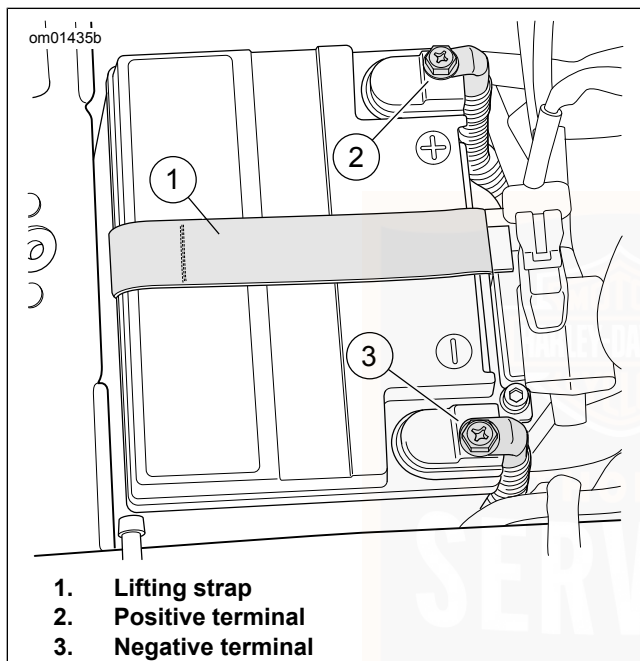

Figure 79. Battery Compartment
10. See Figure 79. Disconnect both battery cables, negative battery cable first.
3. See Figure 79. Place the battery into the battery tray, terminal side forward.